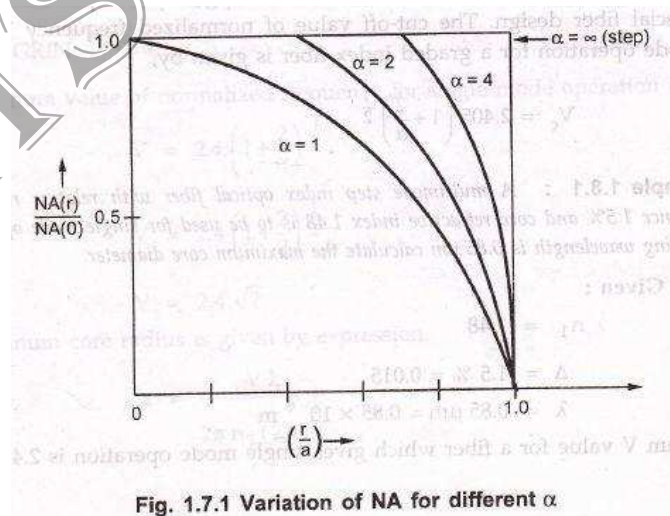

Fig. 1.7.1 Variation of  $NA$  for different  $\alpha$
- x The variation of  $NA$  for different values of  $\alpha$  is shown in Fig. 1.7.1.